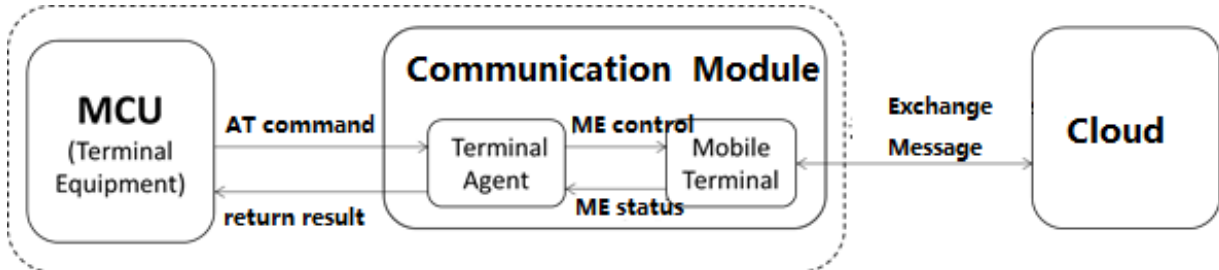

Figure 1 Architecture overview
Terminal Equipment(TE) would send standard AT command sets to Mobile Terminal(MT) to control its related function and network operations. Terminal Adaptor (TA) do adaption function of command and message between Terminal Equipment and Mobile Terminal. The classic implemetation of TE, TA and MT as the Figure 1 shows.